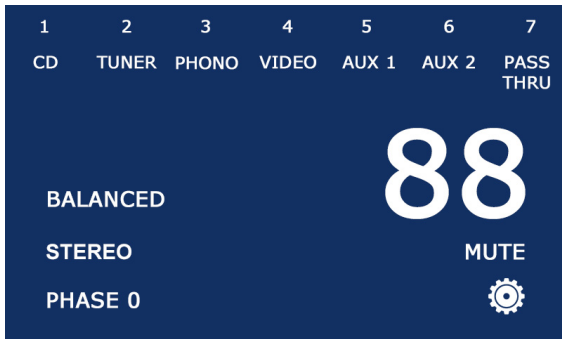

fig. 5
**Input Selection:** To change inputs, touch the currently displayed input name on the screen. The input bar will appear, listing all seven input options. Touch the desired input to change (fig. 5).